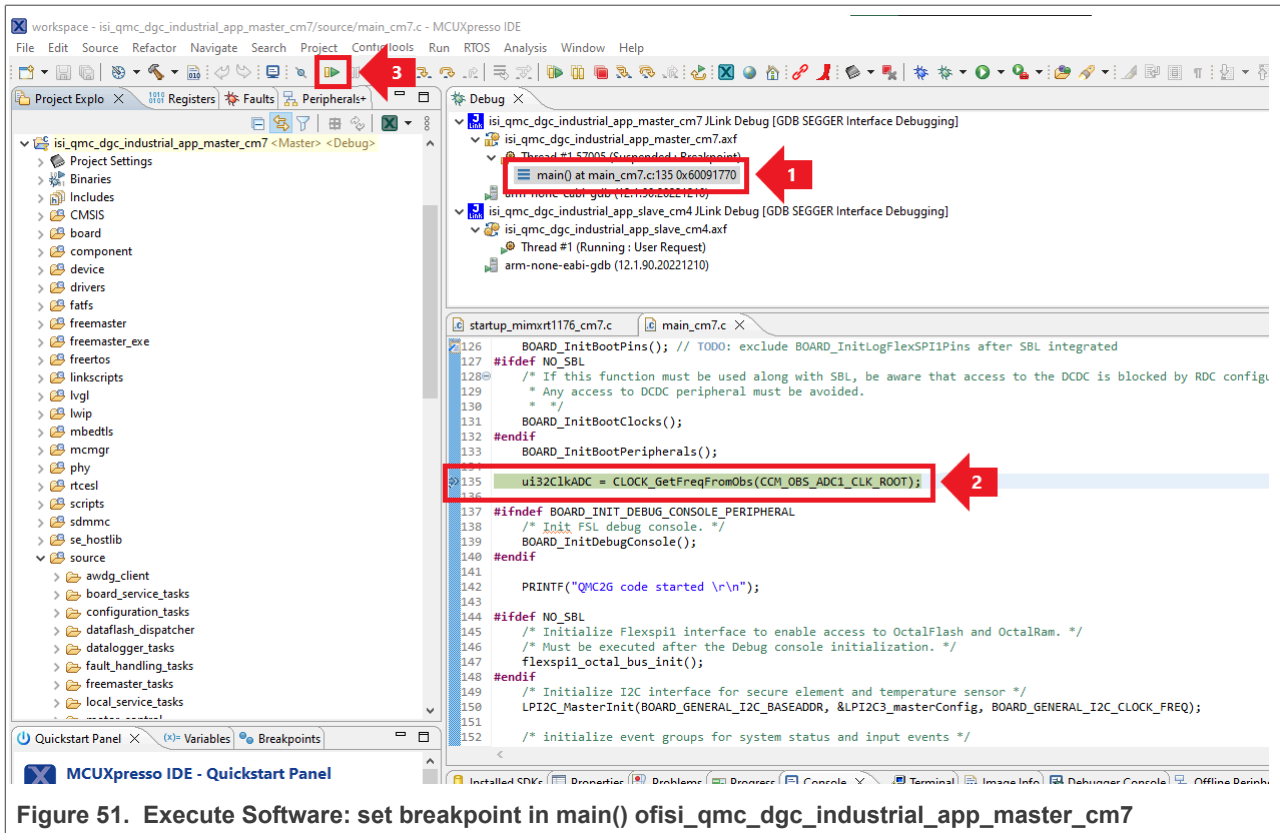

Figure 51. Execute Software: set breakpoint in main() ofisi\_qmc\_dgc\_industrial\_app\_master\_cm7
6. The software starts running on the daughter card and will stop at a preconfigured breakpoint. Set a second breakpoint as shown in Figure 51: